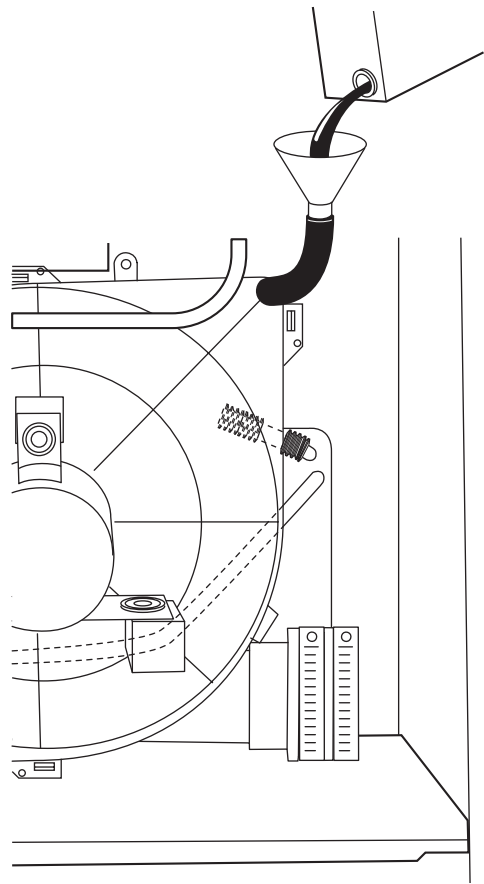

Fig. 15—Funnel in Drain and Antifreeze Running Through Trap A99119
5. Insert funnel in tube and pour up to one quart of antifreeze, propylene glycol (RV, swimming pool antifreeze, or equivalent) into funnel until it is visible at point where condensate enters open drain. (See Fig. 15.)